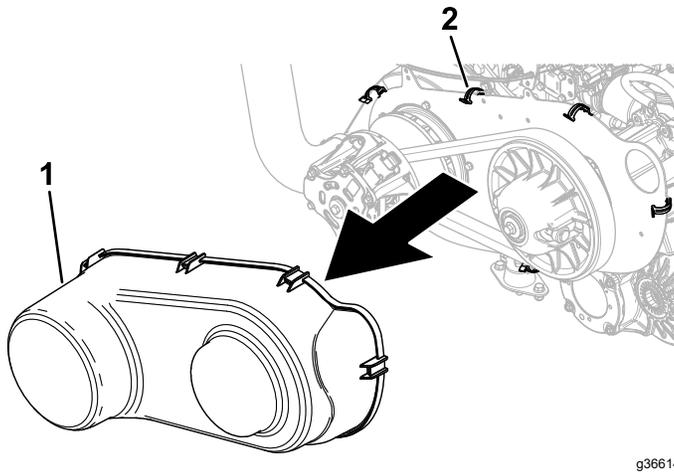

Figure 59
5. Unlatch the 6 spring clips securing the belt cover and remove the cover (Figure 59).
8. Install the belt cover (Figure 59).
10. Install the belt cover (Figure 59).